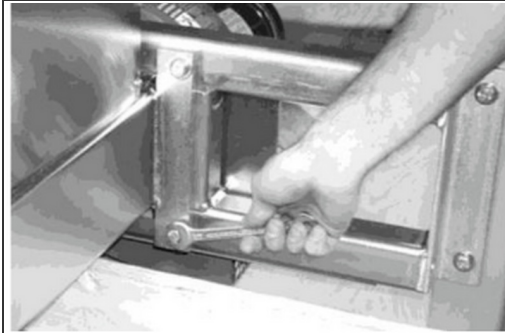

Figure 2 - Plenum Mounting Bolts
- 1-Remove the plenum assembly from the shipping pallet base and install it on the front of the machine with the four 3/8" NC bolts provided. (Figure 2).